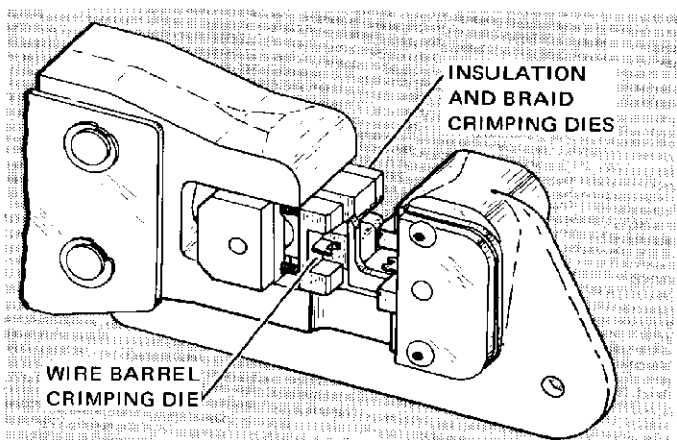

Figure 2
- (b) Most Die Assemblies have three sets of Crimping Dies - one for Inner Wire Barrel of Contact, one for Braid Section of Ferrule and another for Outer Insulation Section of Ferrule. See Figure 2. All three crimps are made at the same time.